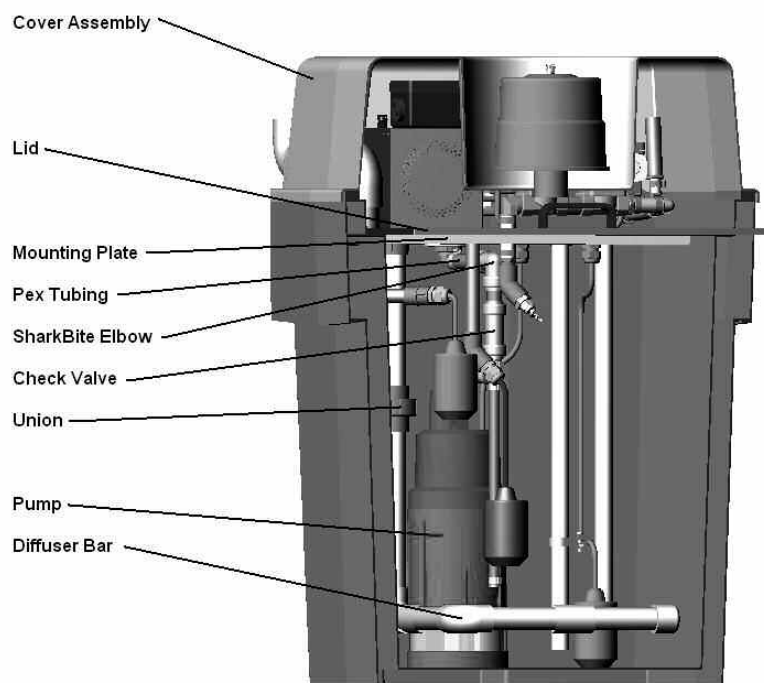

Figure 3 – System Preparation
1. Remove Fasteners securing Cover to Tank and remove Cover Assembly (See Figure 3)